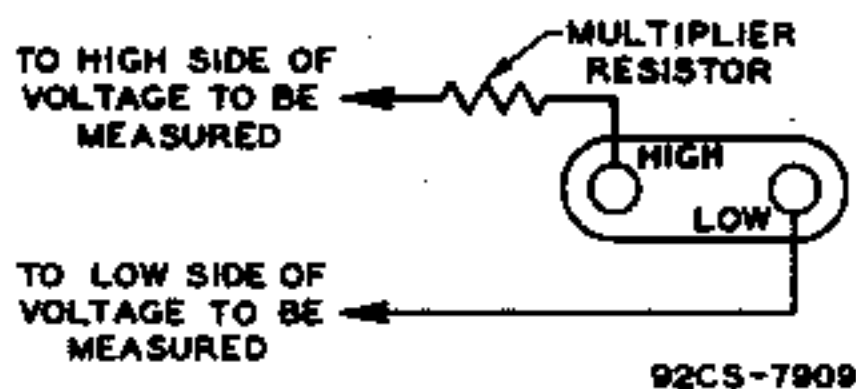

Figure 1. Connection for use as a voltmeter
1. Connect the 50-megohm Multiplier Resistor (Stock No. 97181) in series with the input of the HIGH terminal, as shown in Figure 1.
1. Connect the 950-megohm Multiplier Resistor (Stock No. 57977) in series with the input of the HIGH terminal, as shown in Figure 1.
1. Connect both Multiplier Resistors (Stock Nos. 97181 and 57977) in series with the input of the HIGH terminal, as shown in Figure 1.